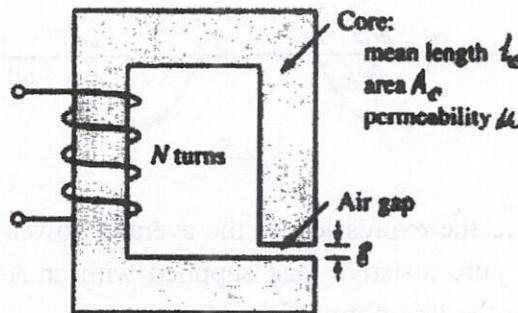

Fig. 4
- (b) A magnetic circuit with a single air gap is shown in Fig. 4.